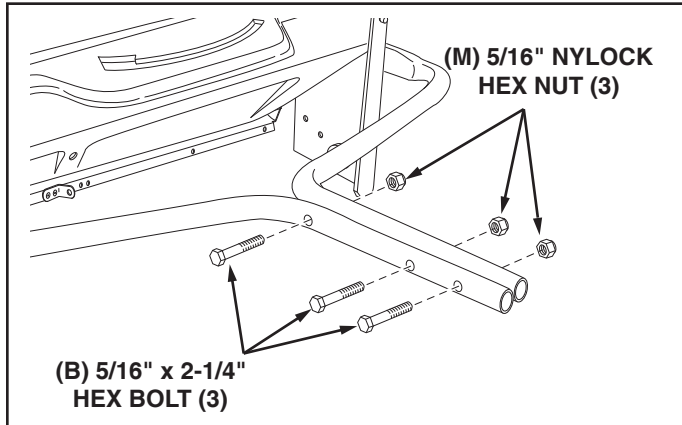

FIGURE 4
8. Fasten the hitch tubes together using three 5/16" x 2-1/4" hex bolts and 5/16" nylock hex nuts. **Do not tighten yet.** See figure 4.